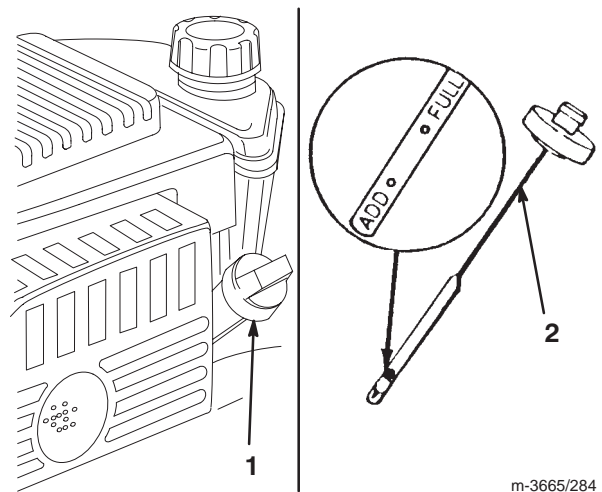

Figure 8
Before each use, make sure that the oil level is between the *Add* and the *Full* marks on the dipstick (Fig. 8).
2. Clean around the dipstick (Fig. 8).
6. Read the oil level on the dipstick (Fig. 8).